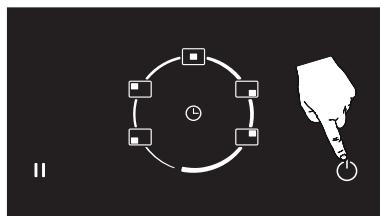

Figure 9
1. A selected cooking area may be turned off by pressing the on/off button (  ). (See Fig. 9)